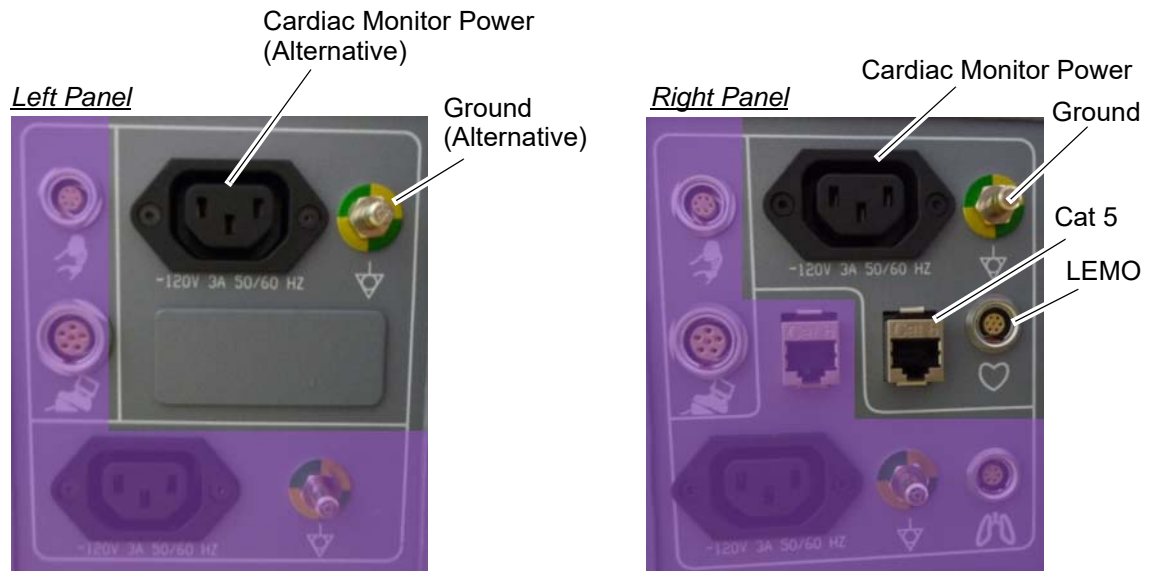

Figure 2-35 Gantry Option Interface Panel
- 7.) Connect the IEC power cord, ground wire, LEMO and CAT5 to the gantry option interface panel. (See Figure 2-35).